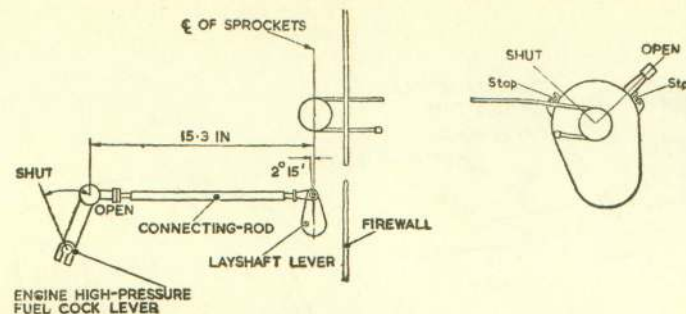

Fig. 7. High-pressure fuel cock control setting
- (2) Check that equal lengths of chain are disposed about the upper and lower sprockets (para. 11).
- (3) Check the length of the rod connecting the layshaft and engine control levers, which should be 17.4 in. (nominal).
- (4) At the cabin control box, fully screw in the throttle lever stop bolts and open the throttle until the lever on the engine comes up against its fully open stop.
- (5) Adjust the cabin control stop to just contact the lever and then screw in two complete turns and lock.
- (6) Repeat for the fully shut position and adjust the control stop accordingly.
- (7) If it is found that the range of movement of the engine lever is outside that of the cabin control box, adjust as necessary at the connecting-rod.
**High-pressure fuel cock (fig. 7)**
13. (1) Set the cabin control lever in the mid-position.